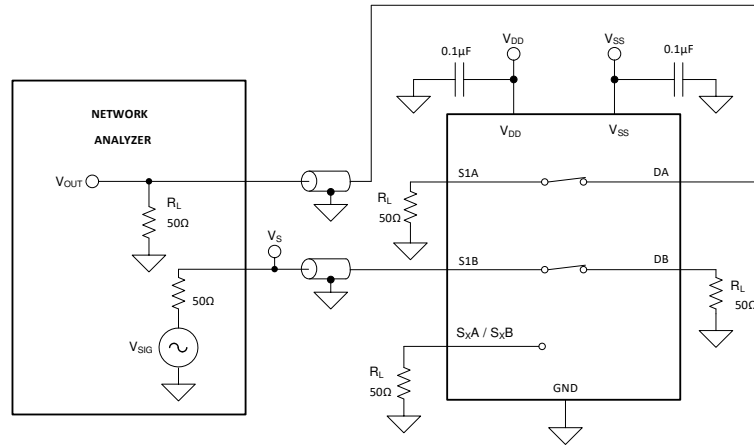

图 6-9. Crosstalk Measurement Setup
Crosstalk is defined as the ratio of the signal at the drain pin (D) of a different channel, when a signal is applied at the source pin (Sx) of an on-channel. 图 6-9 shows the setup used to measure, and the equation used to compute crosstalk.